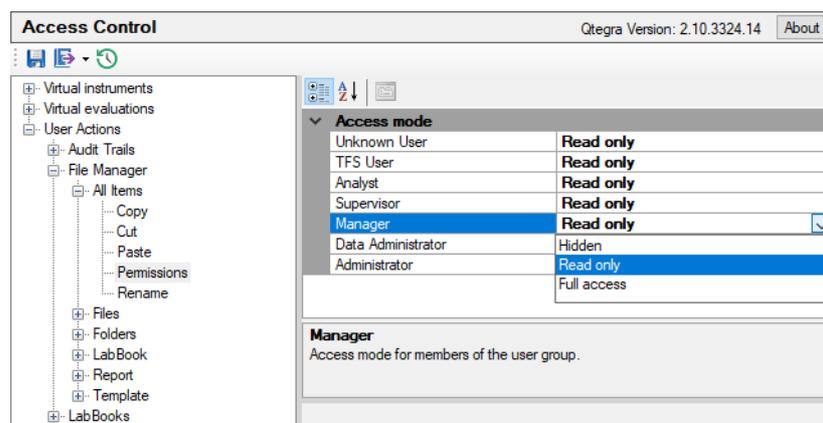

Figure 3-3. Layout of the Access Control applet
With the Access Control applet, the responsible person defines who has access to parts of programs and what type of access permission is granted or denied to a user group. Figure 3-3 shows a typical structure.
3. Click  to expand the list of access rights, see Figure 3-3.